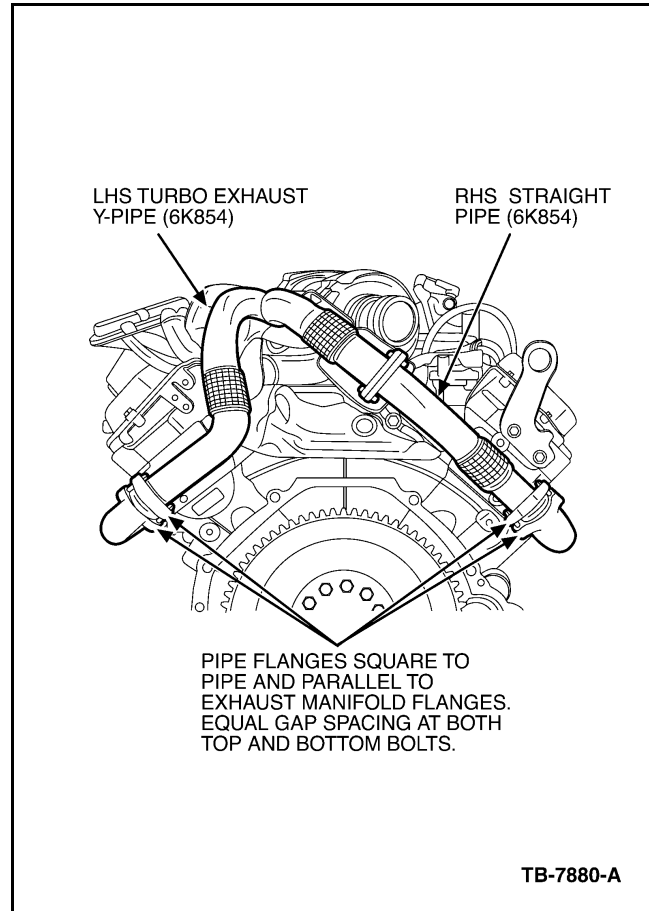

Figure 1 - Article 04-18-4
11. Check for good alignment and fit of the lower LHS Y-pipe and RHS straight-pipe flanges at the mating exhaust manifold outlets. Secure the LHS Y-pipe and RHS straight-pipe to the exhaust manifold outlets using M8 bolts (two (2) per side). Using hand tools snug fasteners evenly to position the pipe flanges square to the pipe and parallel to the exhaust manifold flanges. There should be an equal gap spacing between the pipe flange and exhaust manifold flange at both the top and bottom bolts (Figure 1).